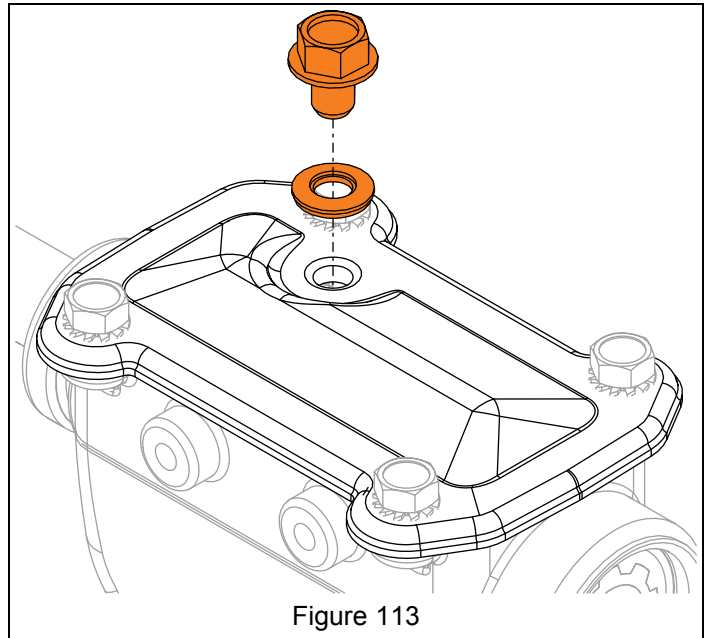

Figure 113
- Remove drain plug and seal washer from gearcase. See Figure 113.